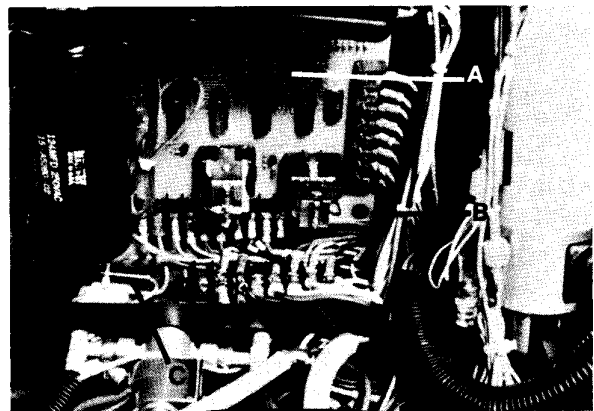
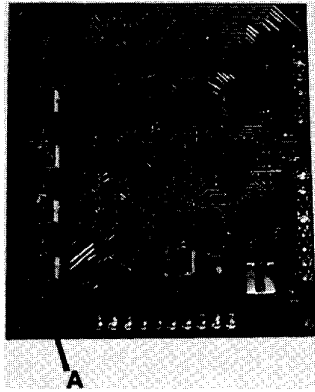

Fig. 39
Fig. 40
The PC board, Item A, Fig. 39 contains the control circuitry to energize the motor and hydraulic cylinders in the proper sequence when a particular examination position is desired.
- 3) Remove PC board by removing (4) nuts and (4) lockwashers, Item B, Fig. 39, one nut located at each corner.
- 4) Place new PC board in position and install (4) #6 lockwashers and (4) #6-32 hex nuts, Item B, Fig. 39.
On all Model 115s prior to Serial #39507, a fuse, Item A, Fig. 40 was mounted on the PC board in the lower left-hand corner. On Model 115s from Serial #39507 this fuse was removed from the PC board and replaced with a different style of fuse, Item C, Fig. 39 mounted external to the PC board. When a PC board is replaced on those chairs prior to Serial #39507, this externally mounted fuse must be added to the circuit. A fuse kit, Part No. 002-0020-01, is available from the factory for this installation.
Two types of fuses have been used on the Model 115. One fuse, item A, Fig. 40 was mounted on the PC board. This fuse is a Littelfuse Catalog No. 273003 Microfuse rated at 3 Ampere, 125 VAC. This PC mounted fuse was used on all Model 115s prior to Serial #39507.
The second type of fuse, Item C, Fig. 39 is mounted external to the PC board and is used on those Model 115s from Serial #39507. This fuse is a Littelfuse Catalog No. 31301.5, 3AG "Slo-Blo" rated at 1½ Ampere, 250 VAC.
- 2) Grasp each end of the fuseholder, Item C, Fig. 39 with the fingertips, pushing and twisting to separate the ends of the fuseholder.
- 4) Reassemble fuseholder, Item C, Fig. 39.
- 2) Remove defective capacitor from its bracket (See Fig. 39). Capacitor is held in place by a protusion on each end of the capacitor engaging in a corresponding slot in the bracket.
- 5) Place cap on new capacitor and install capacitor in the bracket, making sure the protusions on each end of the capacitor are fully engaged in the slot in the bracket. See Fig. 39.